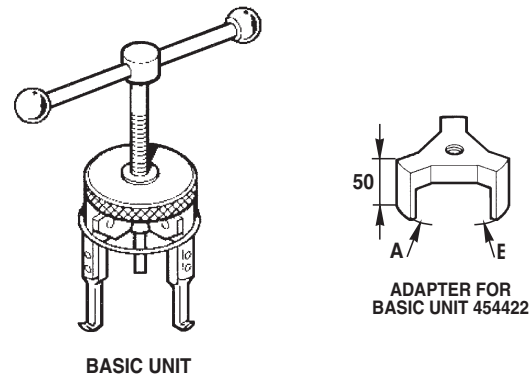

FIG. 5-7b
- Pull outer races of bearings out of the input side of the housing using the extracting unit (Fig. 5-7b) or heating the half housing in an oven to approx. 120°C (248°F) and remove the outer races of bearings together with shims.